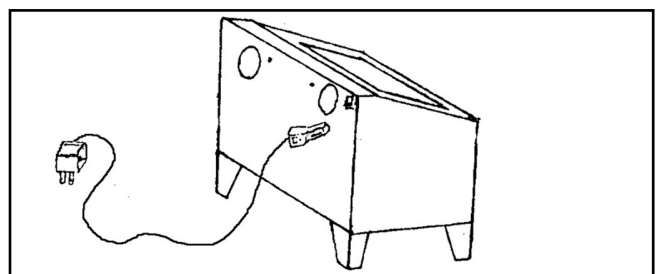

Figure 8. Light assembly.
8. Plug in the AC/DC adapter (Figure 8).